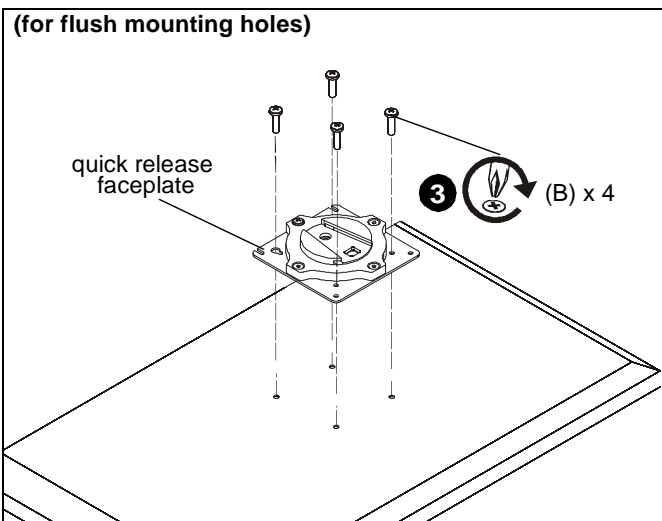

Figure 5
- Using Phillips screwdriver, carefully install four M4x10mm screws (B) through corresponding holes on faceplate and into the mounting holes on the display. (See Figure 5)